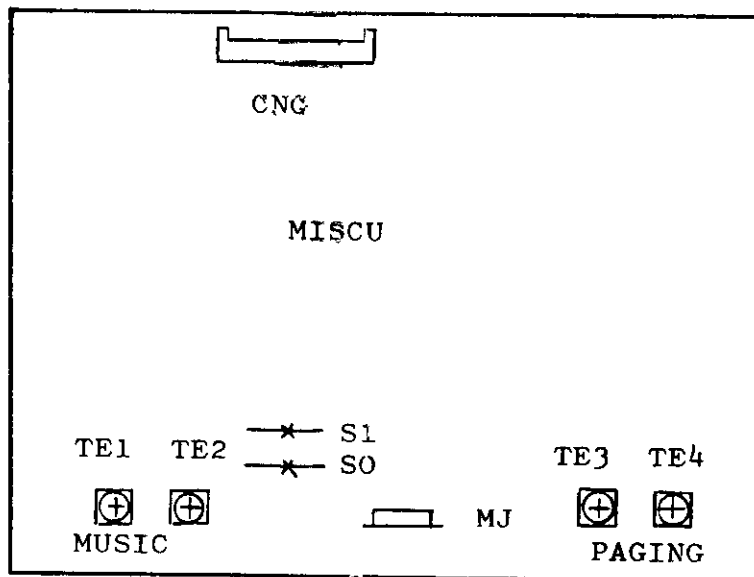

Fig.8 MISCUC Card
4. Insert one end of the flat cable furnished with the MISCUCARD into the connector "CNG" on the MISCUCARD (Fig.8).
3	Connect the cable to the terminals TE1 and TE2 on the MISCUC card (Fig.8).
5	Cut two wires marked "S0" and "S1" on the MISCUC card apart from each other (Fig.8).